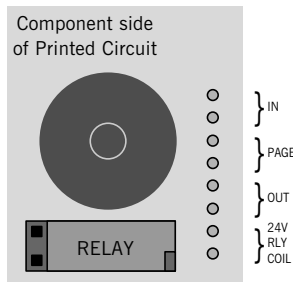

Figure 1. Showing relay in the 24V to over-ride position.
- 'RLY' 24 volt DC to energise relay (see Fig. 1)
It is normally fitted as shown in Fig. 1, so that 24 volts DC applied to the 'RLY' terminals on the circuit board causes the volume control to be by-passed.
Voice restoration relay is shown in the 24V over-ride position, see Fig. 1.